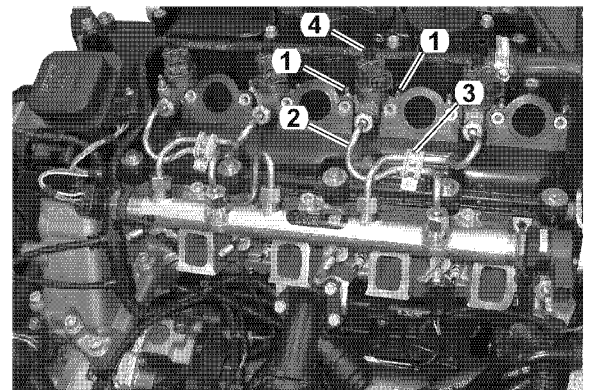

Figure 6-18
- Install the two nuts (1, Figure 6-18) and tighten in steps, first to 3.5 N·m (31 in.-lb) then to 8 N·m (71 in.-lb).
- Install the high-pressure fuel line (2, Figure 6-18). See *Remove and Install High-Pressure Fuel Lines on page 6-14*.
- If removed, install clamp (3, Figure 6-18).
- Install injector return fuel lines (4, Figure 6-18). See *Replace Injector Return Fuel Line on page 6-22*.